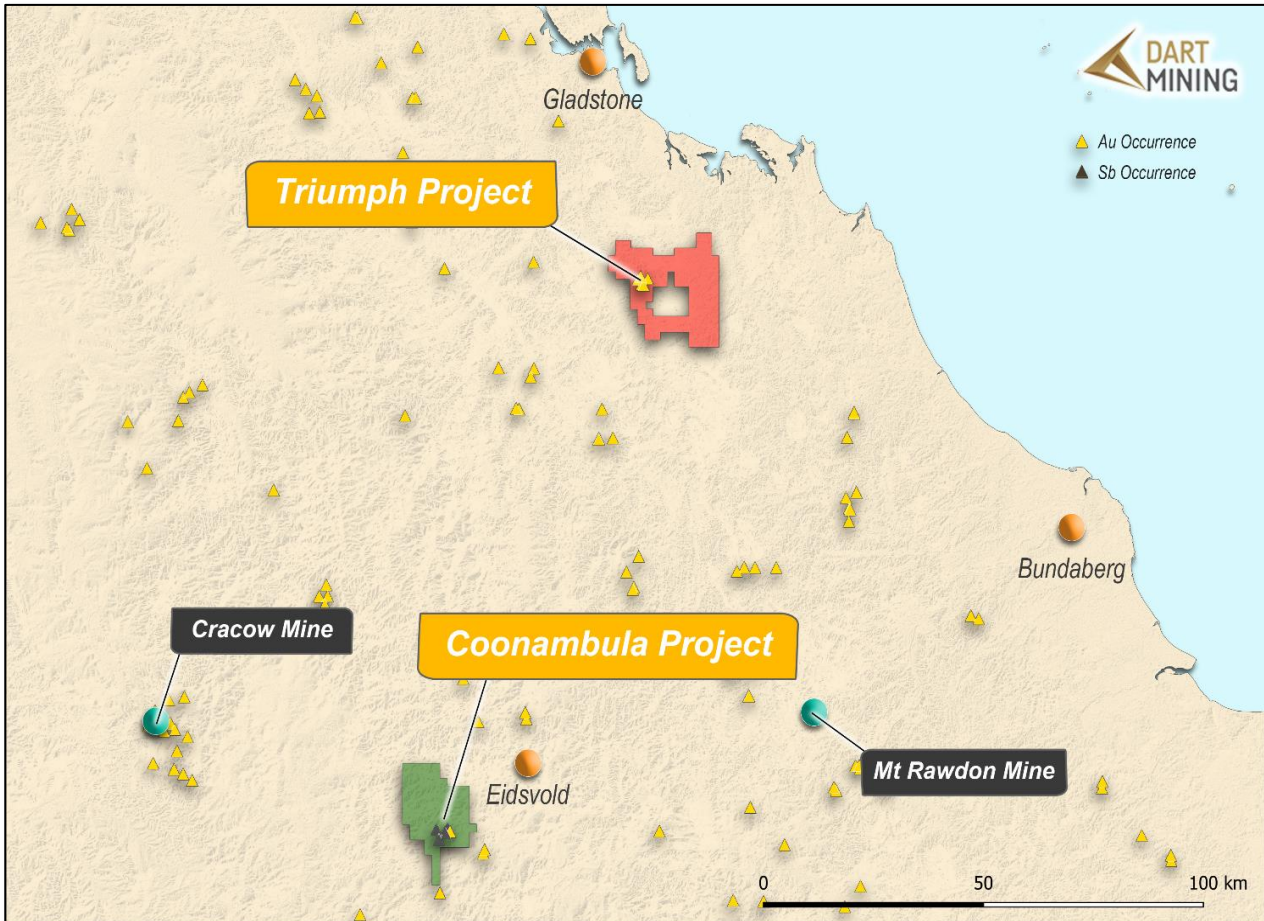

Figure 6 : Project Location Plan.
- CBADD007 has a **0.3m massive stibnite** zone from 139.0m (photo shown as Figure 6);
Additional massive stibnite observations relative to faulting have been intersected. The Company interpreted hydrothermal breccias at the base of CBADD002, but have also intersected faulting related mineralisation in CBADD007 (Figure 6) and CBADD010.